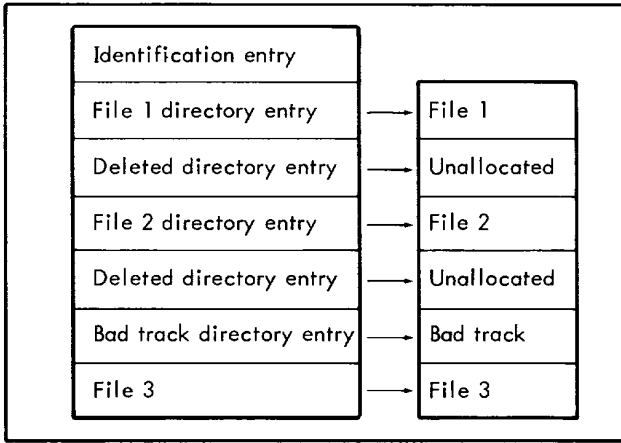

Figure 14. Permanent RAD Area Before Squeezing
3. When all available space in an area is exhausted, a complete search of the file directory is made for unallocated areas made available through file deletions. The smallest area containing a sufficient amount of space to allocate for the file is selected. If sufficient space is not found upon searching the directory, the operation is aborted. To overcome this problem, RAD squeezing may be requested to recover the unused storage within a permanent RAD area by compressing the directory entries and files (see Figures 14 and 15).